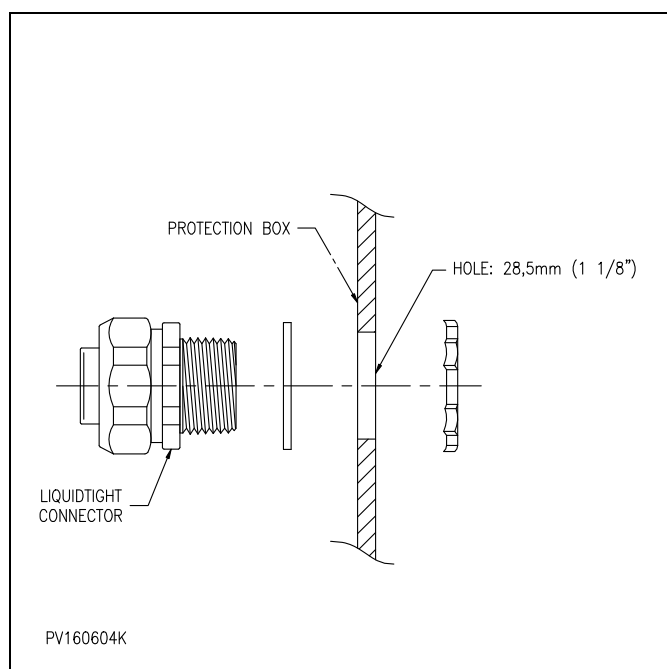

Figure 5 : Mounting the liquidtight connectors on ABS protection box
2. Drill holes and install the the liquidtight connectors. Refer to Figure 5 : "Mounting the liquidtight connectors on ABS protection box".